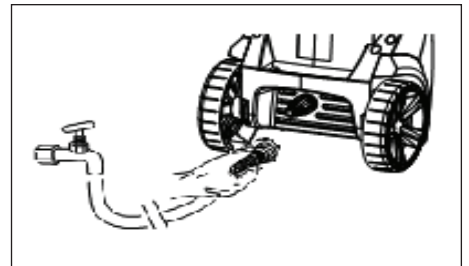

Figure 11 - Attach garden hose to unit
9. Attach garden hose to unit (see Figures 11 and 12).